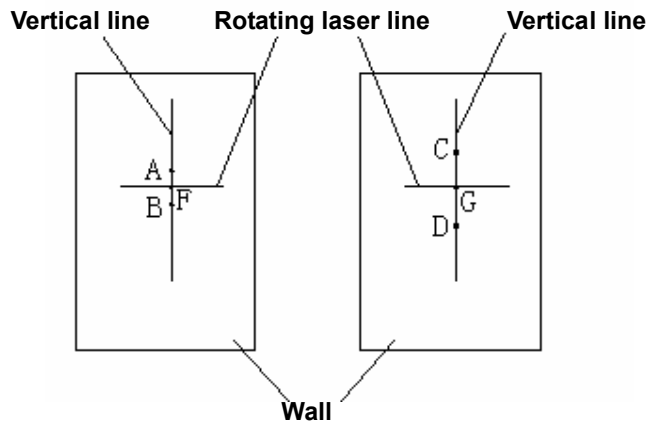
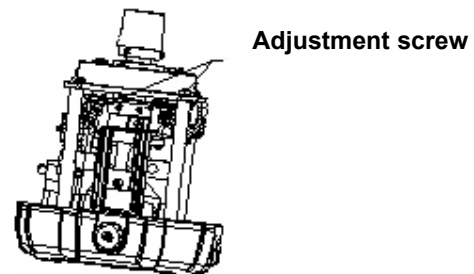

Figure 27
Figure 28
(2) As shown in figure 27, take the middle point between point A and point B as point F, and the middle point between point C and point D as point G. Then adjust the cross point of rotating laser line and vertical line to point F and point G with the adjustment screw (The instrument is provided with 4 adjustment screws in total, as shown in figure 28, and they could be adjusted a Flat blade screwdriver and the inner hexagon spanner)